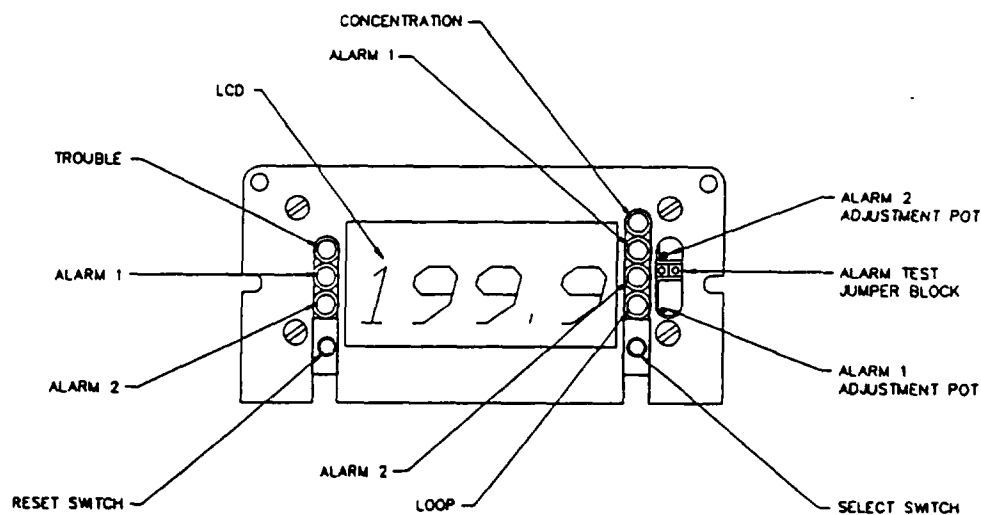

FIGURE 2
To change the alarm levels for Alarm 1 and Alarm 2 first select the appropriate Alarm level to be displayed using the SELECT button to step through the choices available. Next loosen the two thumbscrews on the front panel to remove the face plate. Alarm 1 adjustment potentiometer is in the bottom righthand corner and above it is Alarm 2 adjustment potentiometer. Using a small jewelers screwdriver adjust the respective potentiometer until display shows the required setting. When Alarm adjustments are complete replace front panel and change display back to CONC (figure 2).
To test Alarm Relays and Alarm status LEDs loosen the two thumbscrews on the front panel to remove the face plate. The TEST jumper block is located between the two alarm adjustment pots on the display. Using a small jewelers screwdriver temporarily short the jumper posts together. See Figure 2. All three alarm relays will be energized and the three ALARM LEDs will turn ON.
3.2.2 Procedure (refer to Figure 2):